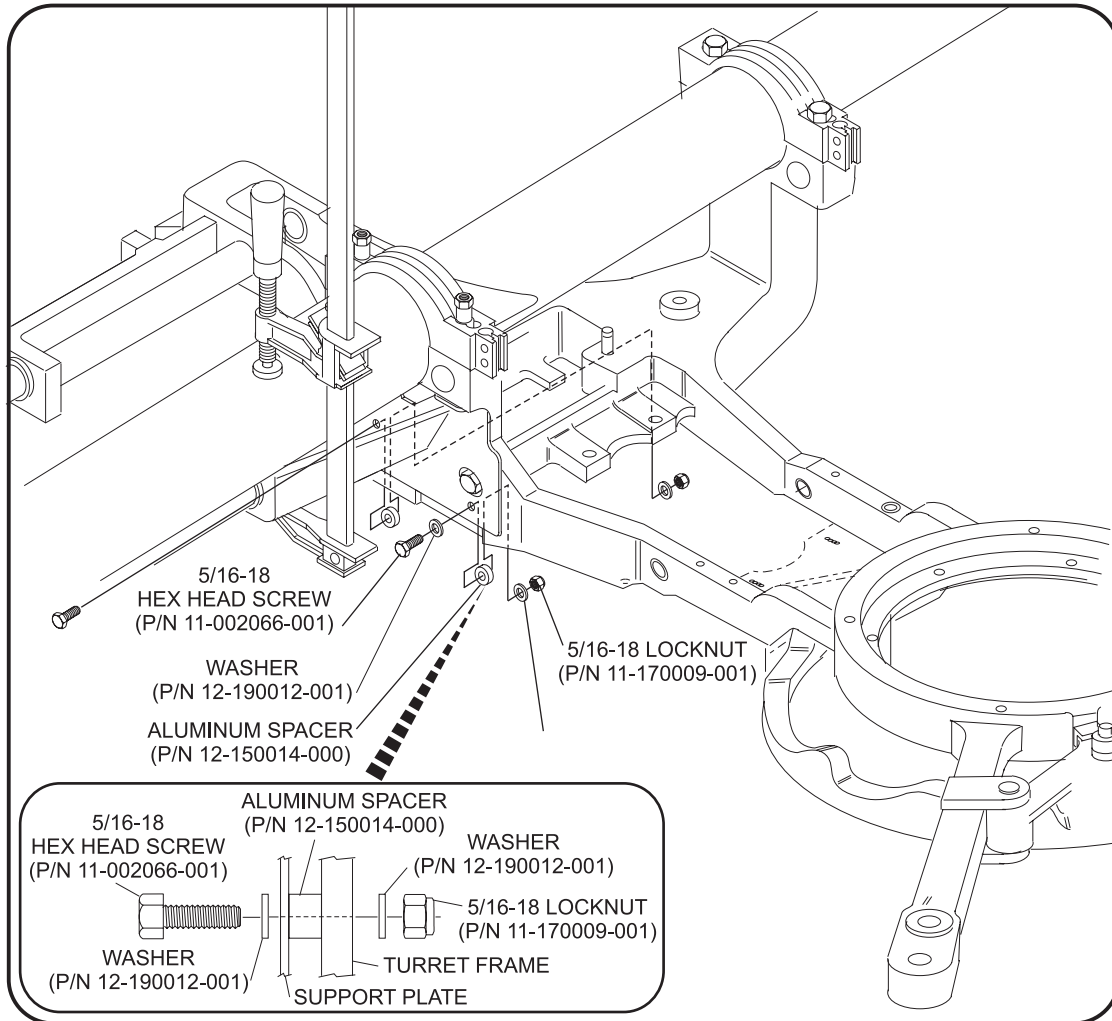

Figure 4
10. Once holes are drilled, place an aluminum spacer (P/N 12-150014-000) between the turret frame and support plate. Thread the 5/16-18 hex head screw (P/N 11-002066-001) through the plate, spacer and washer. Secure the screw with another 5/16 washer and 5/16-18 self locking nut (P/N 11-170009-001). Refer to *Figure 4*.